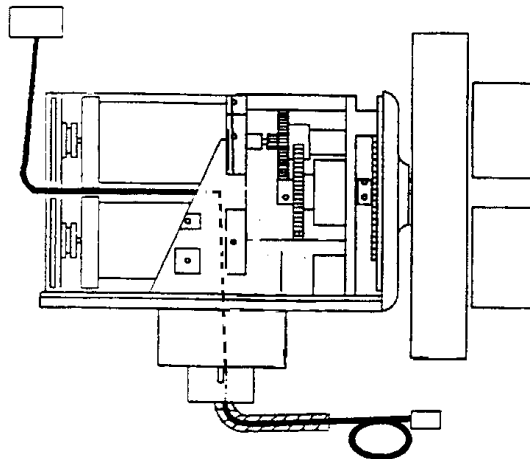

Figure 3-6. Forearm-hand cable routing
Carefully observe the routing of the cable through the hand prior to performing this procedure. Refer to Figure 3-6.
2. Route the loose ends through the wrist joint out the lower part of the hand box opening. Refer to Figure 3-6.
8. Position the hand power board so it clamps the end of the spiral wrap between the board and the escutcheon (as shown in the Figure 3-6) and traps the grommet in the notch.